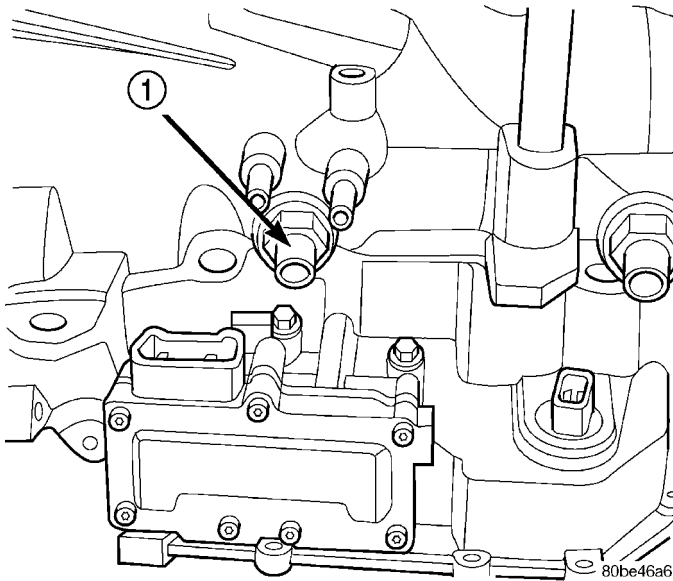

Fig. 306 Input Speed Sensor
(5) Remove input speed sensor (Fig. 306).
(3) Install input speed sensor (Fig. 306) and torque to 27 N·m (20 ft. lbs.).